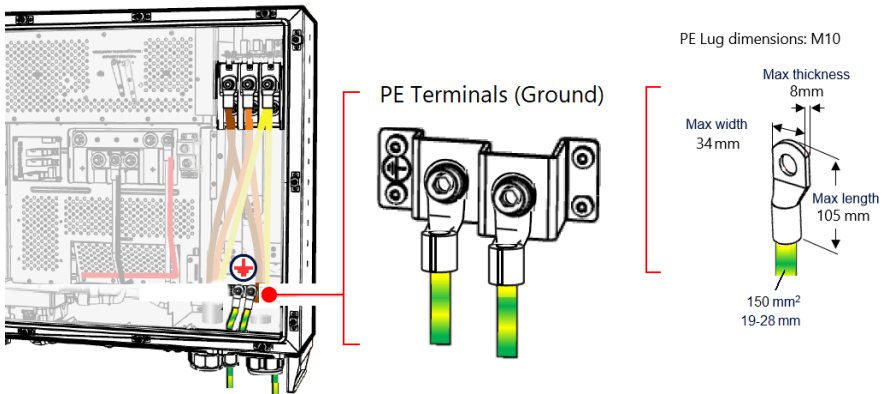

Figure 26: Connecting PE (Ground) to the Inverter
3. Strip the required length of insulation from the PE wire, crimp a lug and connect the wire to a PE terminal and tighten the screw to 16.27 N*m (see *Figure 26*).